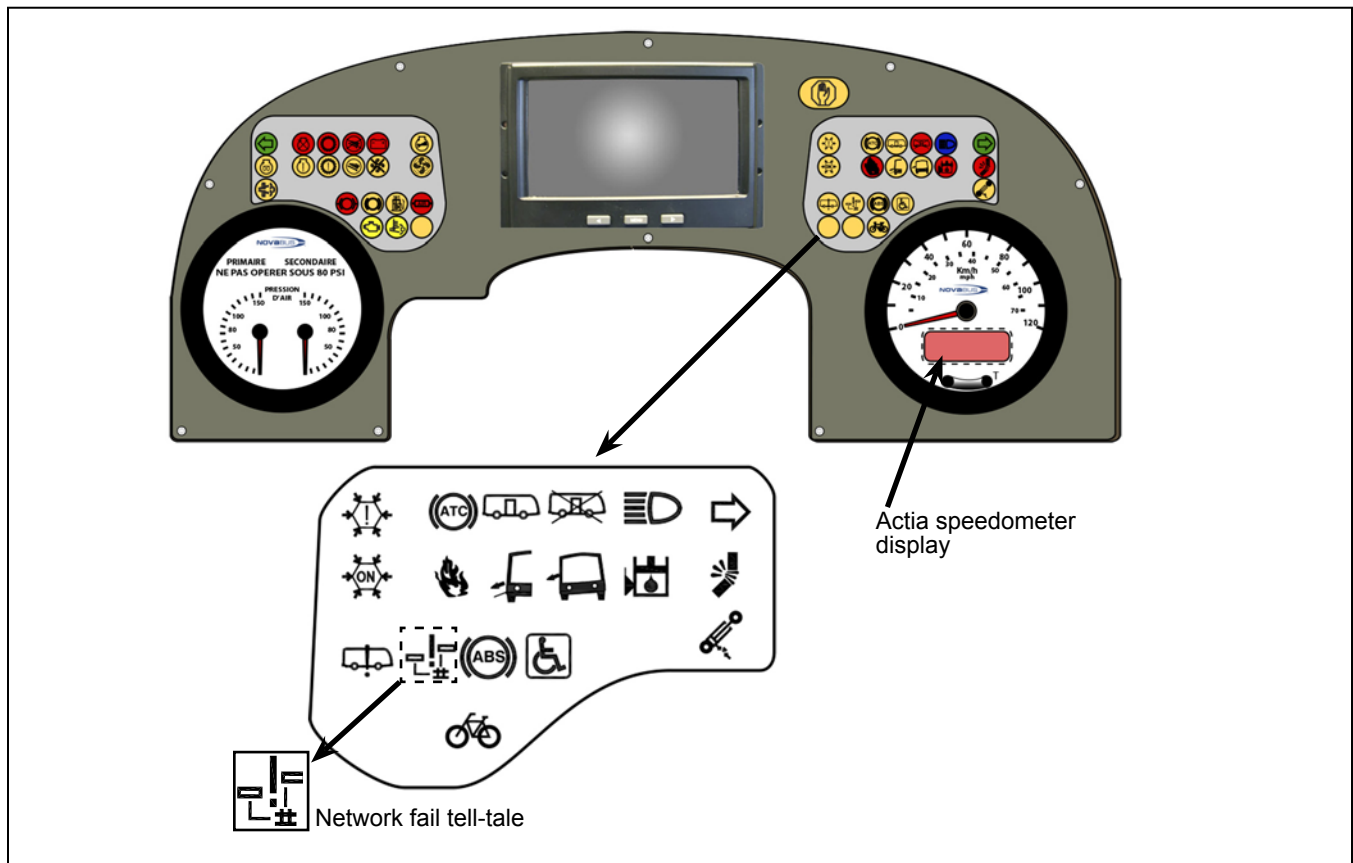

Figure 2 - Network Tell-Tale and Actia Speedometer Display to Validate IO Module Reprogramming
- 1.8. Check that the **NETWORK FAIL** tell-tale is not lit up to ensure IO modules are reprogrammed. If the tell-tale is not lit up, the newly installed IO module is reprogrammed. See Figure 2.
- 1.9. If the **NETWORK FAIL** tell tale is lit up, validate whether the new IO module is faulty in the Actia speedometer display. If the newly installed module is not reprogrammed, a fault corresponding to the module number will be displayed in the Actia speedometer display. Redo the entire procedure except step 1.3 if the newly installed IO module is coded. See Figure 2. ❖